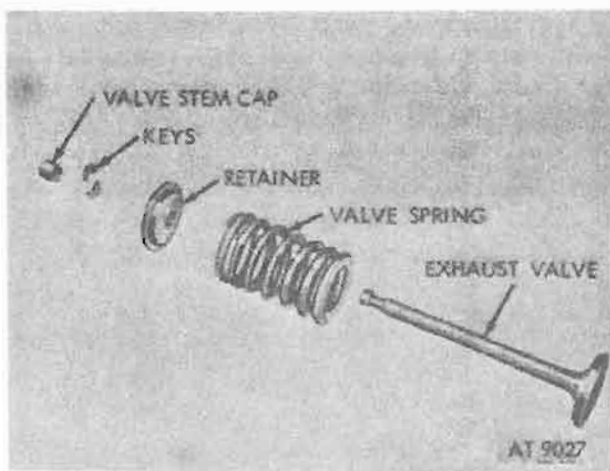

Figure 4-122. Exhaust valve assembly.
(3) *Exhaust valve.* Withdraw exhaust valve from valve guide and identify with grease pencil so it can be installed in same guide from which it was removed. Repeat the above procedure on all four valves (fig. 4-122).
(3) **Exhaust valve installation.** Install each valve in guide from which it was removed or to which it was fitted. Refer to figure 4-122.